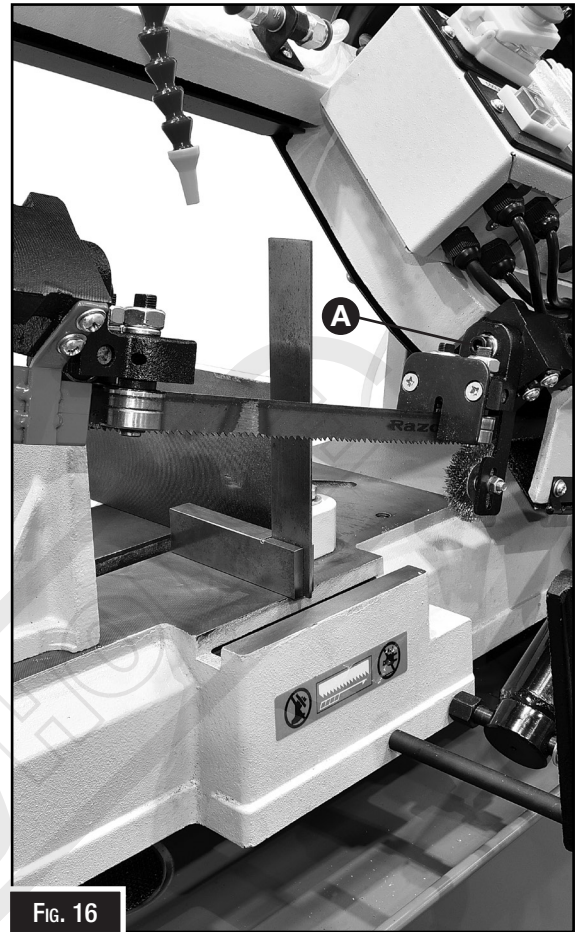

FIG. 16
2. Place a machinist's square on the table next to the blade as pictured in (Fig. 16).
4. If adjustment is necessary, loosen bolts (A, Fig. 16) and rotate blade guide assemblies slightly in the same direction until blade makes contact with the square along it's entire width.